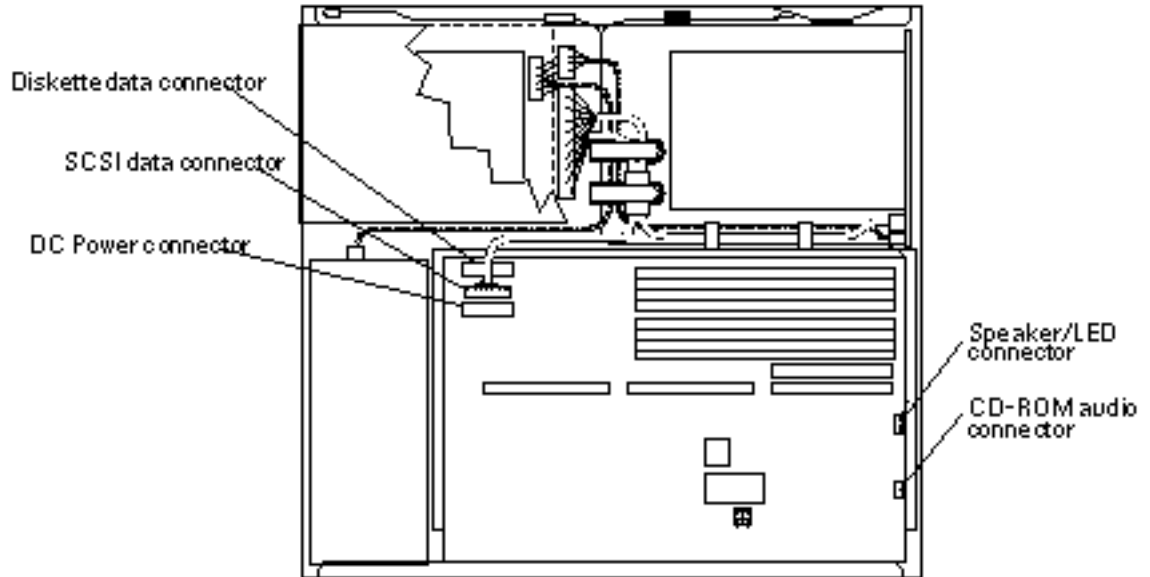

Figure 9-19 System Board Cable Connections
4. **Unplug the DC power, SCSI data, diskette data, speaker/LED, and CD-ROM audio cables from the system board (see Figure 9-19).**